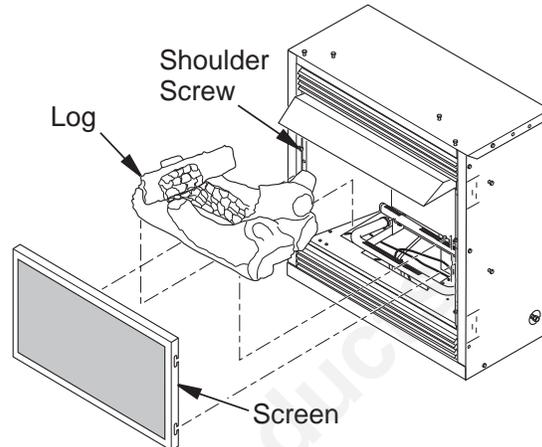

Figure 24 - Installing Log and Screen
1. Remove log packaging material and discard packaging. Gently place log over burner (see **Figure 24**). Do not allow log to contact flame. If flame contacts log, soot will be created.